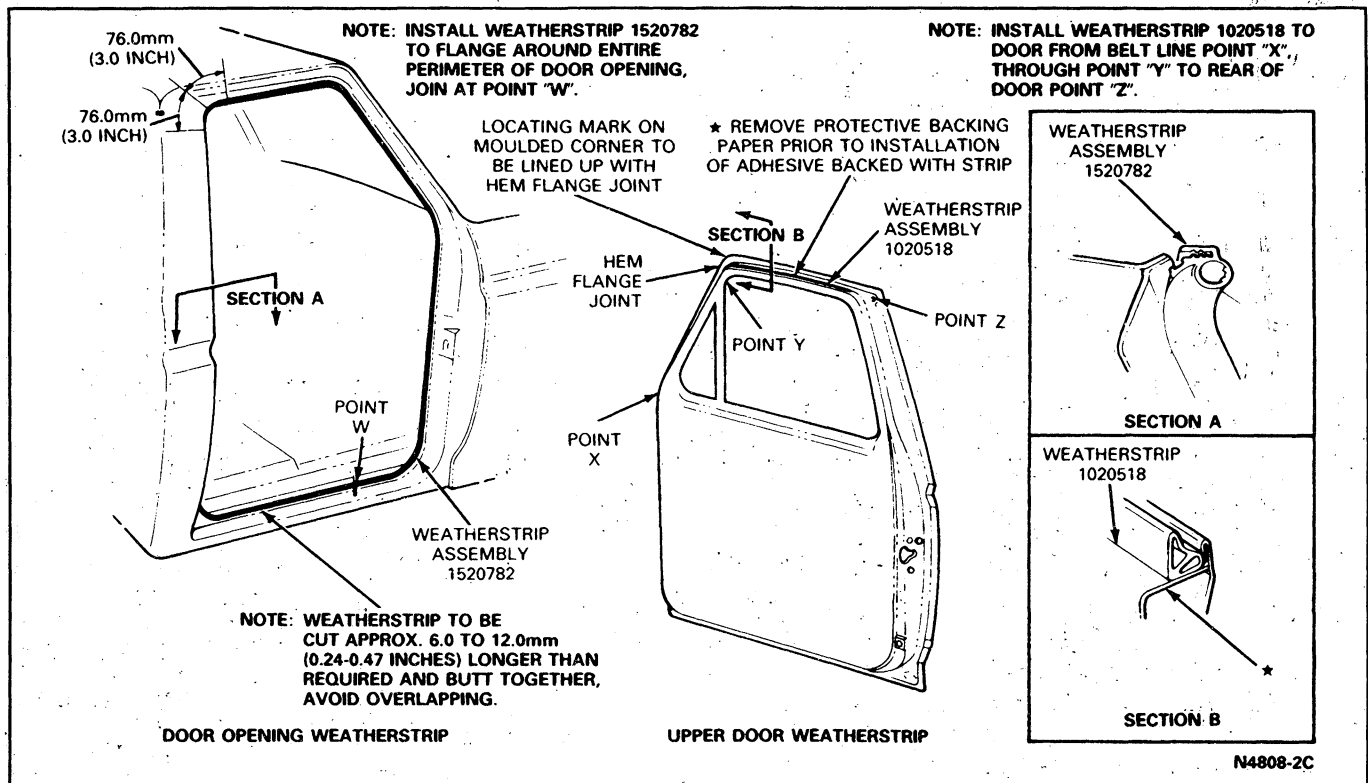

FIG. 9 Door Opening and Upper Door Weatherstrips—F-150—F-350 and Bronco
2. Install weatherstrip by pushing onto flange around entire door opening (Figs. 9 and 10).
6. An adhesive-backed weatherstrip is also applied to the upper door (Fig. 9).
A secondary weatherstrip is also used on the door of XLT and Lariat models (Fig. 9). Remove the weatherstrip and clean all old weatherstrip adhesive from the door. Replacement weatherstrip has paper backed adhesive on the attachment surface. Peel off paper backing and apply seal to the door inner panel Fig. 9.